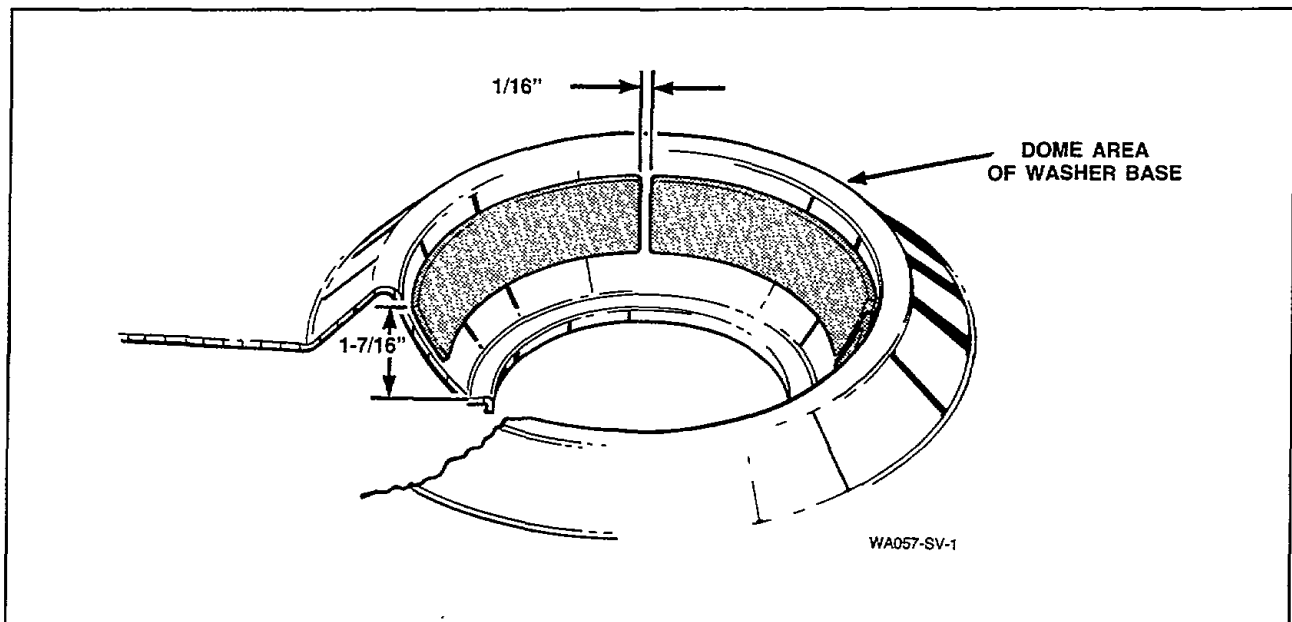

Figure 48
- Carefully align and apply new snubber pads with the fluffed side against base dome so they are equally spaced, *Figure 48*.
IMPORTANT: The top edge of the snubber pads should be one and seven sixteenth inches from lower part of dome with a distance of one sixteenth inch between pads, *Figure 48*.